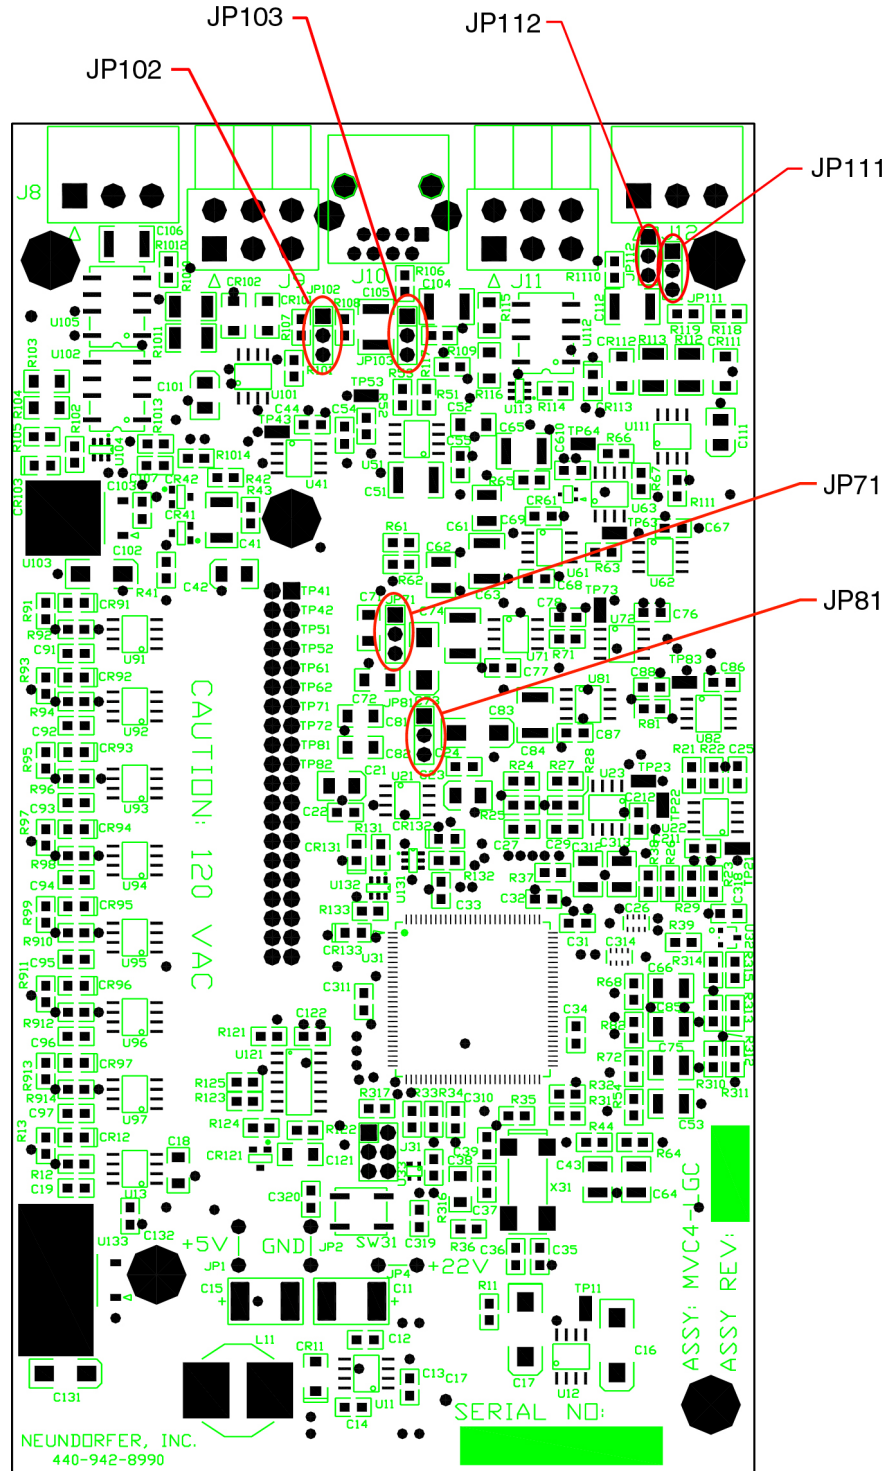

Figure 3 - MVC-IV Logic Board Jumper Identification
The physical ends of each data link RS-485 cable must be terminated for reliable data link operation. Refer to the Neundorfer or other equipment user manual for the devices at the physical ends of the data link cable for the termination method. *Section 11.1* and *figure 3* provide information for setting the MVC-IV data link termination jumpers.
The main LOGIC board has a total of six micro jumpers to configure circuitry for the particular installation. Each micro jumper has a storage position (middle and bottom post) and an active position (upper and middle post). Refer to *figure 3* for location of each jumper. Normally LOGIC boards are shipped with all jumpers in the storage position.
*Figure 3* identifies the MVC-IV DISPLAY data link jumpers as JP102 and JP103, which activate the end-of-line terminator for the DISPLAY data link. These jumpers remain in their **inactive** (down) positions unless there is a network cable connected to one of J8 or J9 but not to both. If there is a network cable connected to **just one of J8 or J9**, then this LOGIC board is at the physical end of the cable, and JP102 and JP103 must be placed in their **active** (up) positions.
*Figure 3* identifies the MVC-IV POS data link jumpers as JP111 and JP112, which activate the end-of-line terminator for the POS data link. These jumpers remain in their **inactive** (down) positions unless there is a network cable connected to one of J11 or J12 but not to both. If there is a network cable connected to **just one of J11 and J12**, then this LOGIC board is at the physical end of the cable, and JP111 and JP112 must be placed in their **active** (up) positions.